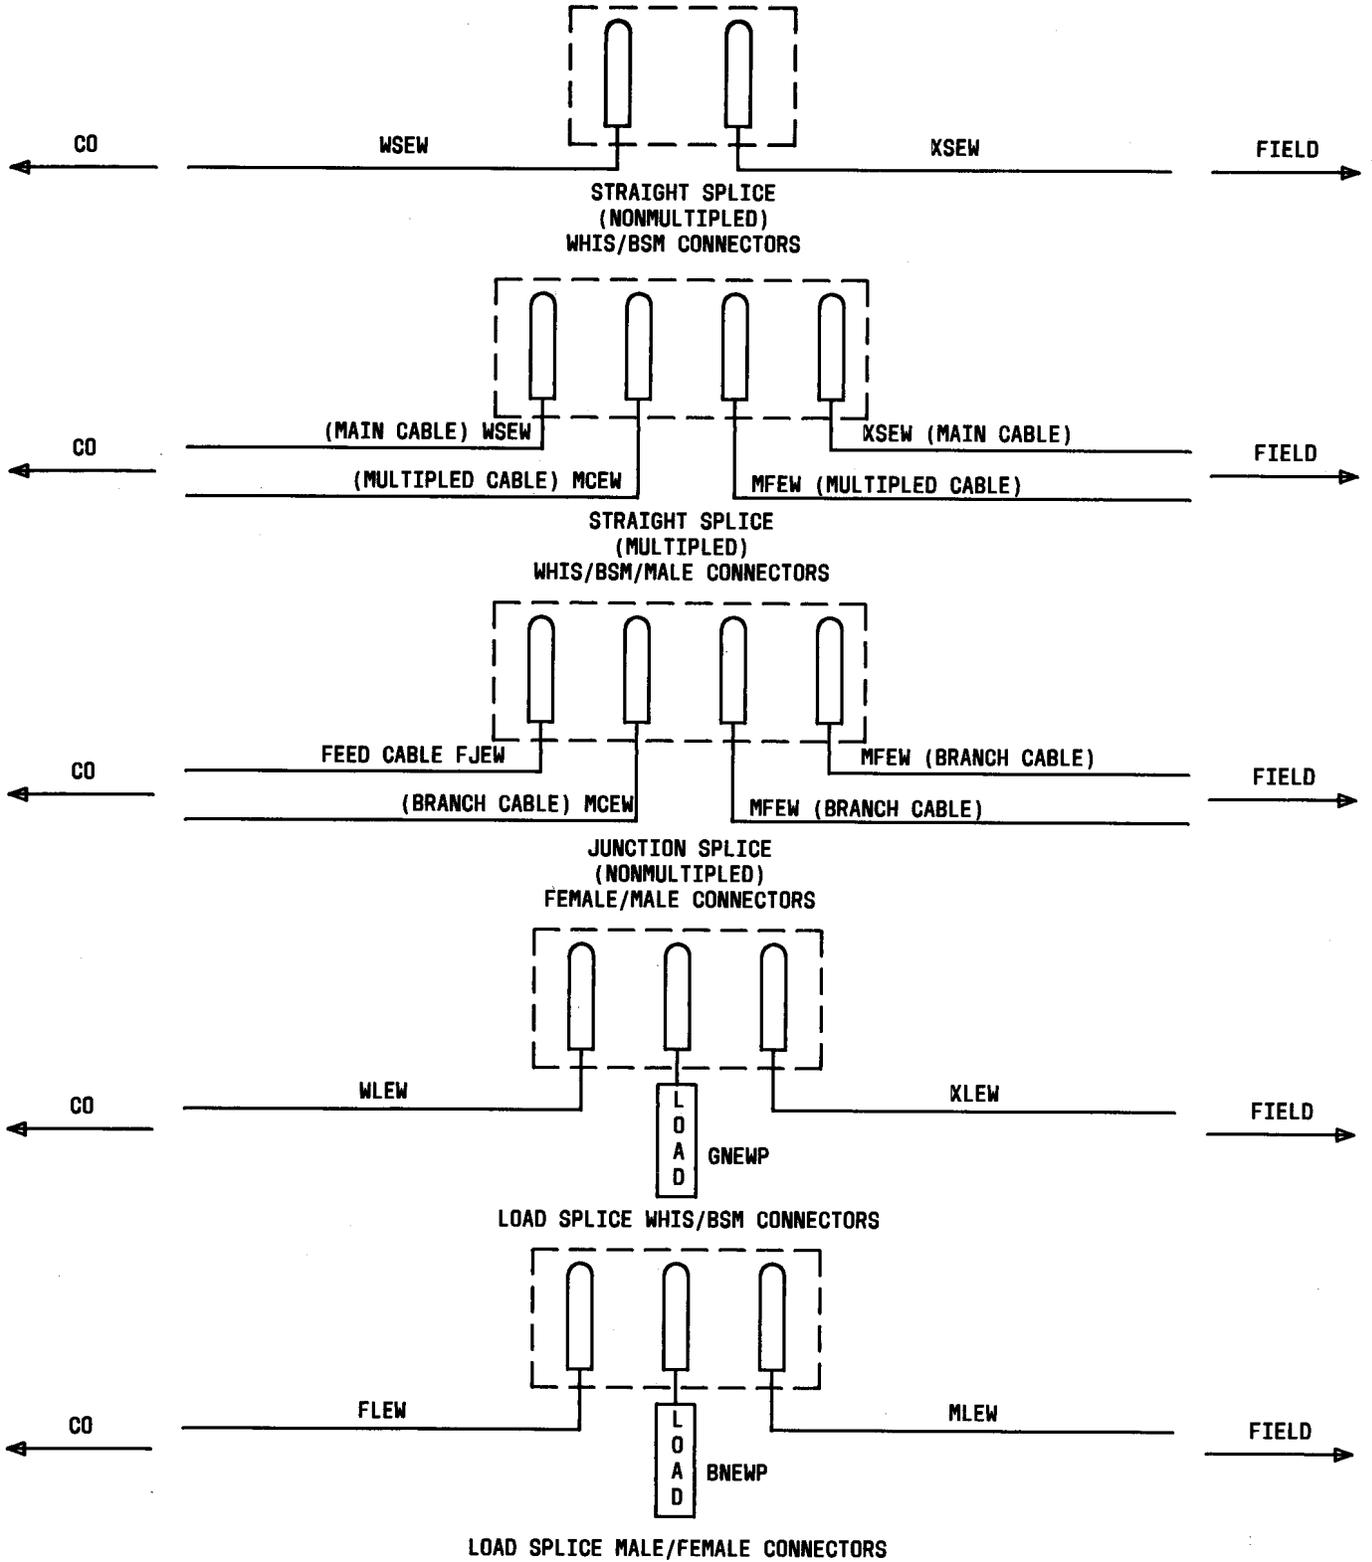

Fig. 41-3—Valid UP-1248 PEDESTAL SPLICE Codes
- (g) To add Fig. 41-3, "Valid UP-1248 PEDESTAL SPLICE Codes", Page 89-3.
**2.007** Add Page 89-3 to show Fig. 41-3 "Valid UP-1248 PEDESTAL SPLICE Codes".